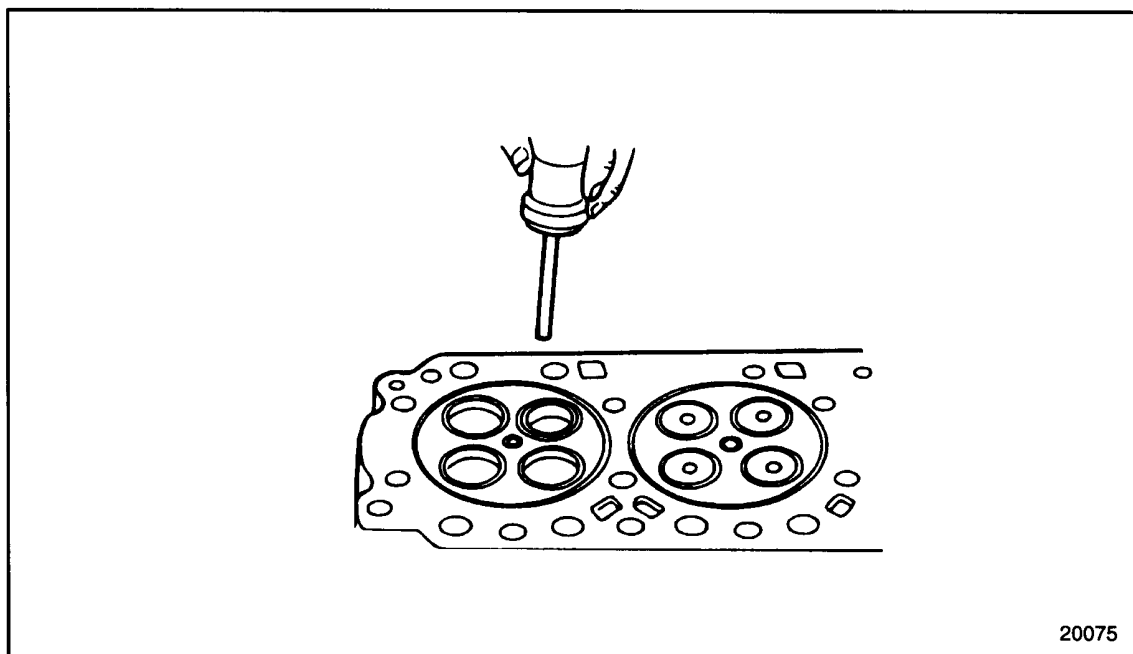

Figure 1-80 Valve Seat Insert Installation
4. Pilot the installer into the valve guide from the firedeck surface. See Figure 1-80.